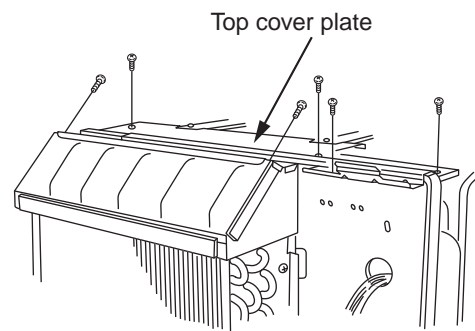

Fig. 7
(1) Remove the 6 screws holding the top cover plate. (Fig. 7)